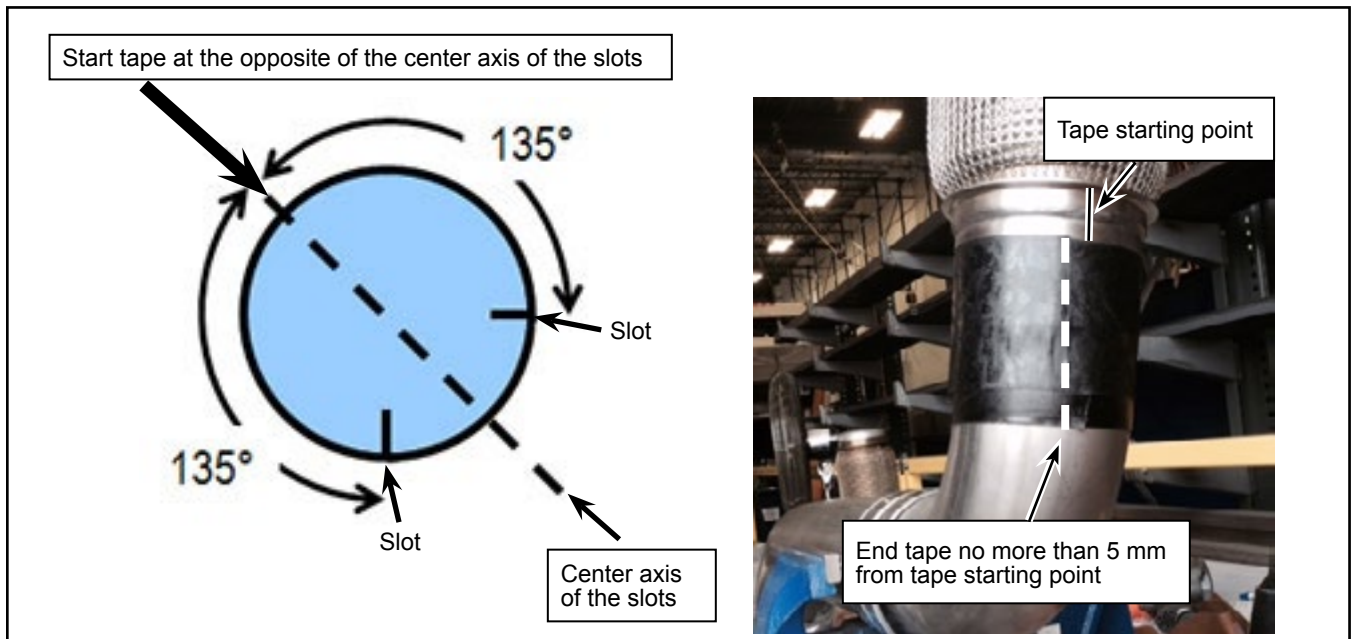

Figure 4 - Position of N83257 Tape on the Flexible Bellows
- 1.13. From the opposite of halfway (or center axis) between the two slots and in line with the 10 mm mark, wrap two layers of N83257 (3 in. wide) tape. End the second layer of tape even with or 1/4 in. (0 to 5 mm) from the start point. See Figure 4.